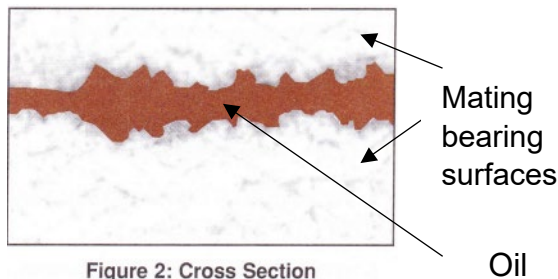
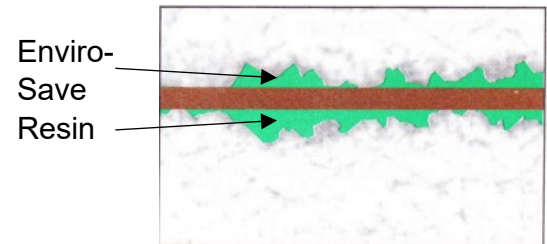

Figure 2: Cross Section
Figure 3: Resin Filled
Figure 2 is a side view illustrating the roughness of the bearing surfaces of the crankshaft bearing shell. The roughness is demonstrated by the peaks & valleys in the area colored in brown which represents the gap (clearance) & oil between two mating bearing surfaces. It is into this gap which the lubricating oil moves. The roughness of the bearing surface asperity induces oil turbulence of the oil between the two surfaces & in the boundary lubrication mode. This turbulence contributes to oil film breakdown, potentially allowing the bearing surfaces to contact each other which in turn contributes to friction. Any increase in friction has 3 primary impacts: (1) increases fuel consumption (2) higher operating temperatures & (3) small metal particles from the bearing surfaces. These particles contribute to (i) more frequent oil changes & (ii) higher metal wear rates requiring more frequent replacement &/or repairs.
The Enviro-Save treatment is applied via the oil. Figure 3 shows the clearances/gaps between the bearing surfaces, the same gaps as per Figure 2, which are now filled to the height of the peaks but not above the peak with Enviro-Save's resin. The green areas represent Enviro-Save resin while the brown line represents oil. In doing so, Enviro-Save does not leave a film or coating on the peaks which would reduce running clearances, but instead forms an impregnation within the peaks. Subsequent (periodic) monitoring by oil analysis confirms that a single Enviro-Save treatment remains in the bearing surface indefinitely, thus avoiding the need for repeat applications.